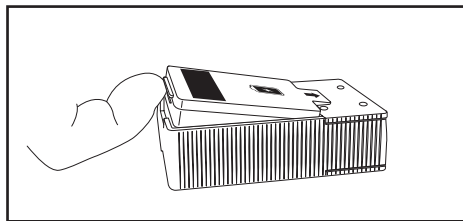

Figure 5
- 7.1. At the end of the battery opposite the connector, you will feel a thin protruding hard tab on the battery (Figure 5).